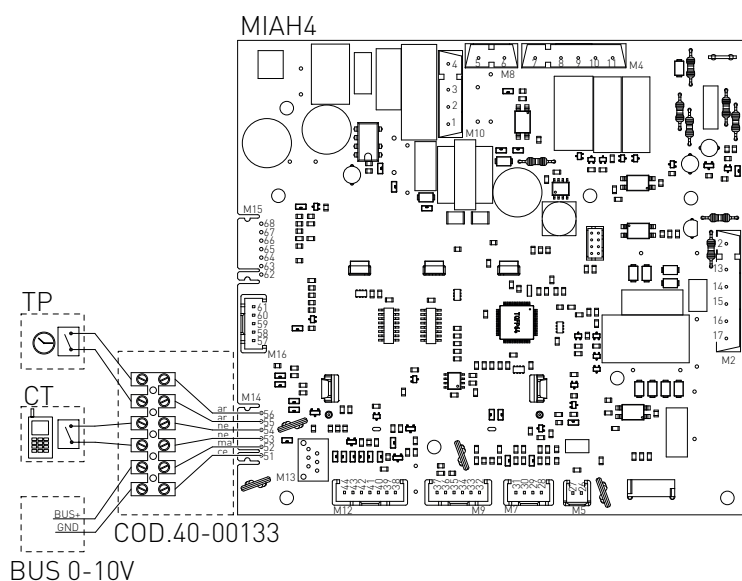

fig. 1
To connect the boiler's power supply, operate on the "SPM" male plug (see fig. 1), located under the boiler template, following the below instructions:
- › disconnect the "SPM" male Plug and make the connections (see fig. 1).
operate on the "SPM" male plug (see fig. 1), located under the boiler template, following the below instructions:
- › disconnect the "SPM" male Plug and make the connections (see fig. 1):
- › after removing the crankcase, connect the items below to the electronic board (see fig. 1):